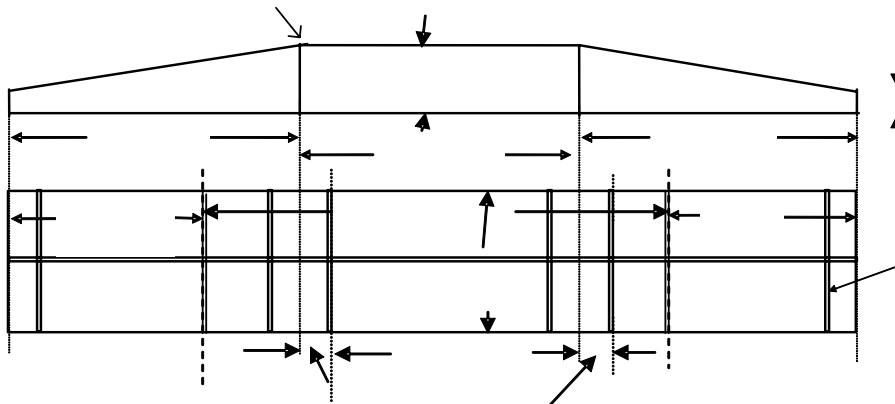

Fig.4a. Pole Balancing Robot Table
6.1 The robotic vehicle would operate on the top of the table provided. Please see Fig. 4a. The table-top will have a slight gradient at the start (region A) and the end (region C) zones as shown in Fig. 4a.
6.2 The vehicle will be placed within the region A (see Fig. 4a). The operator may move the pole (the inverted pendulum) to an upright position and release it upon receiving the signal from the judges. The vehicle must balance the pole in the upright position for a minimum of 20 seconds without the vertical pole crossing the line X-X'.